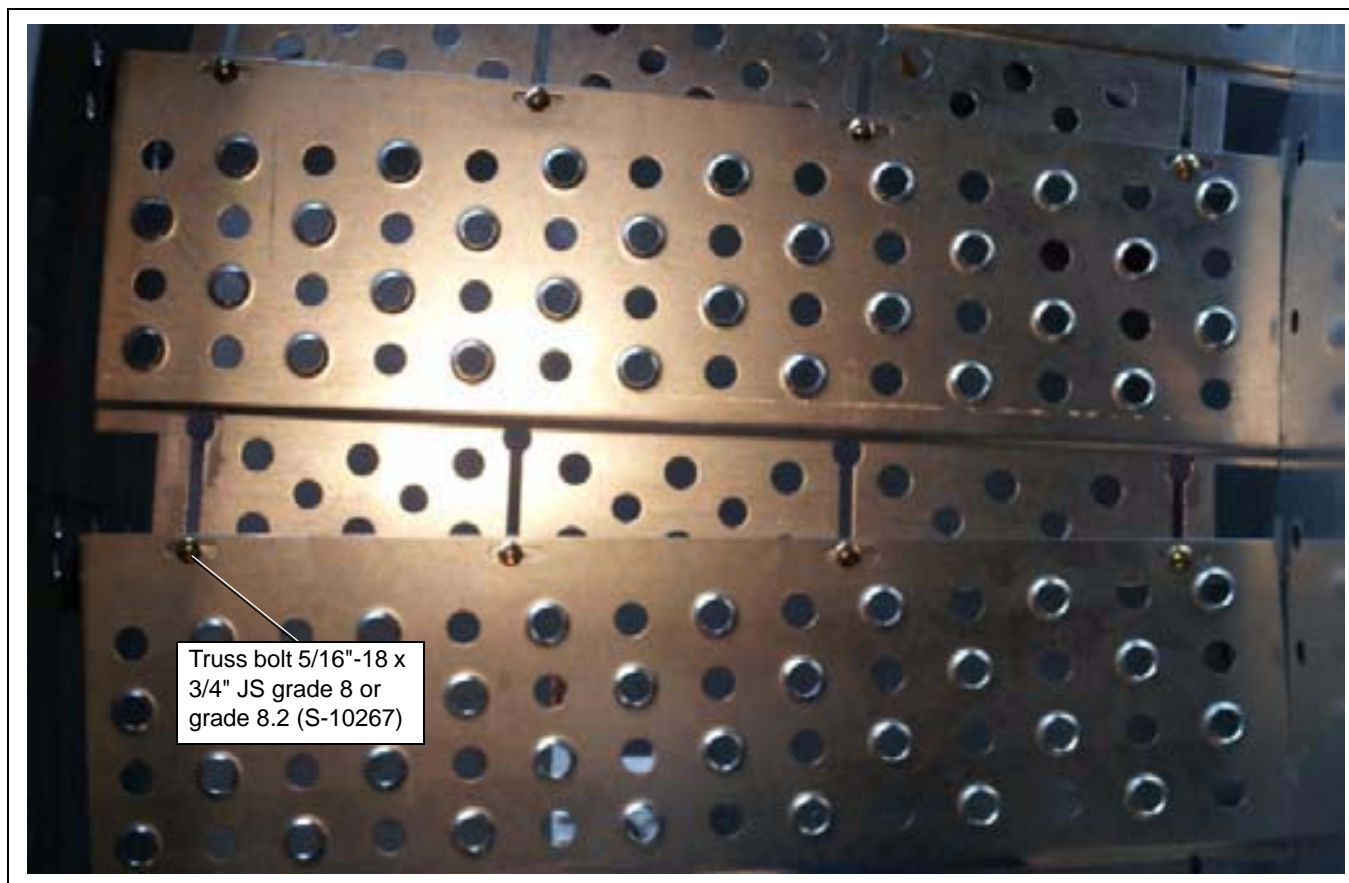

Figure 4N
5. Each plank should be overlapped at the edges and bolted with 5/16"-18 x 3/4" JS grade 8 or grade 8.2 bolts (S-10267) and 5/16"-18 JS grade 5 nuts (S-10268). (*See Figure 4N.*)